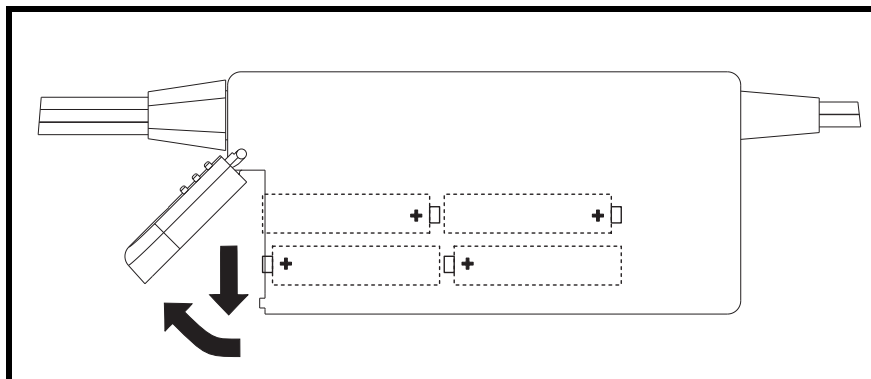

FIGURE 3. Battery Installation
1. Slide the battery door down in the direction of the arrow, then up to rotate the battery door. See Figure 3.